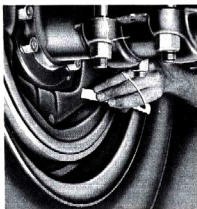

Fig. 51—Adjusting $1\frac{1}{2}$ and 2 Ton
2. Turn rear adjusting screw (fig. 51) until a moderate dragging contact is felt on the brake drum and then back off 3 notches.